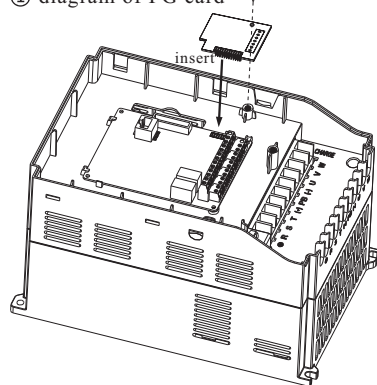
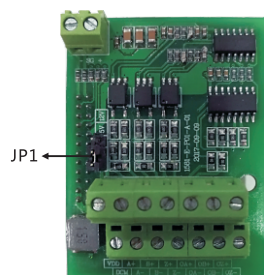

Figure 1 Install of PG extension card
Figure 2 PG card
- ①: make sure the AC drive is power off completely.
- ②: insert PG card and extension card of inverter.
- ③: fix by screw as Figure 1
2) The appearance, terminal block and function description are shown in figure 1, figure 2 and table 1.
① diagram of PG card